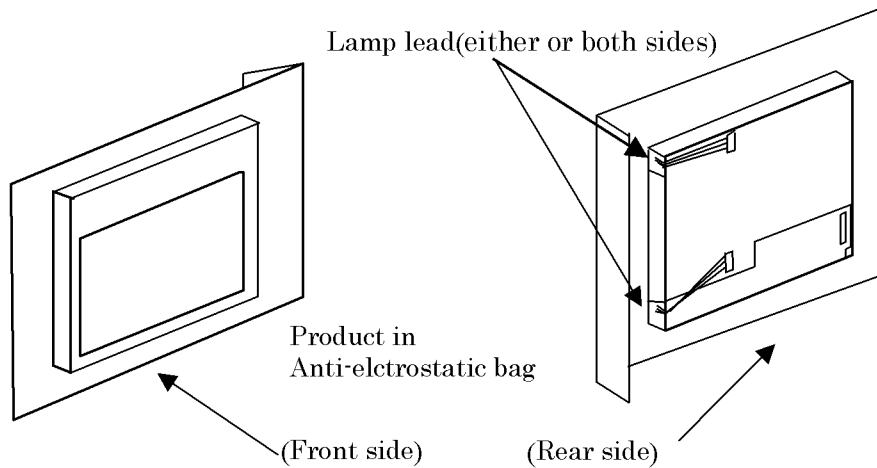

Fig. 7
- (1) Each of LCD module is packed in anti-electrostatic bag(Fig.7)
- (2) LCD module is covered with LCD protector.